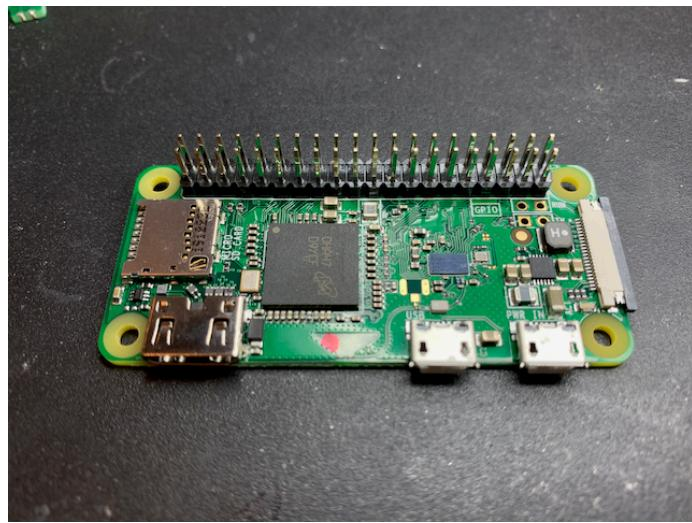

Figure 1: Raspberry Pi Zero with correctly oriented header block
1. If you do have a Raspberry Pi Zero or Zero W without headers populated, solder a header block onto the Raspberry Pi Zero *ensuring they are correctly oriented as shown in Figure 1: Raspberry Pi Zero with correctly oriented header block!*